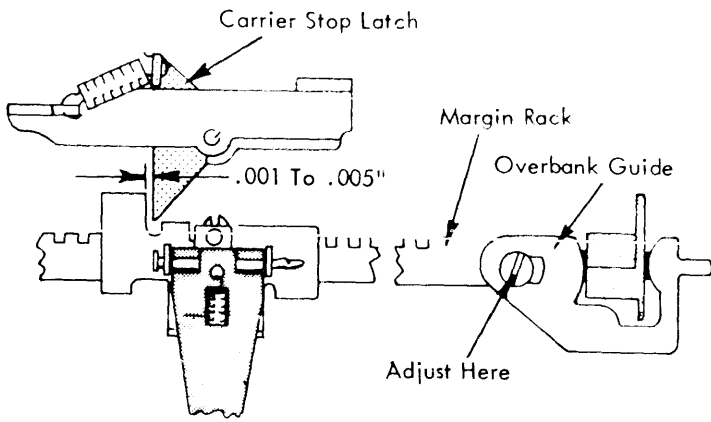

FIGURE 170. Margin Rack Overbank Guide
1. Margin Rack Overbank Guide - With the carrier resting at the left hand margin, adjust the overbank guide (Fig. 170) left or right on the margin rack to obtain .001" to .005" clearance between the margin stop and the margin stop latch on the carrier when the margin rack is in its rest position (Fig. 170). When observing this clearance remove the floating action of the margin stop latch by pulling the stop latch to the right with a spring hook.